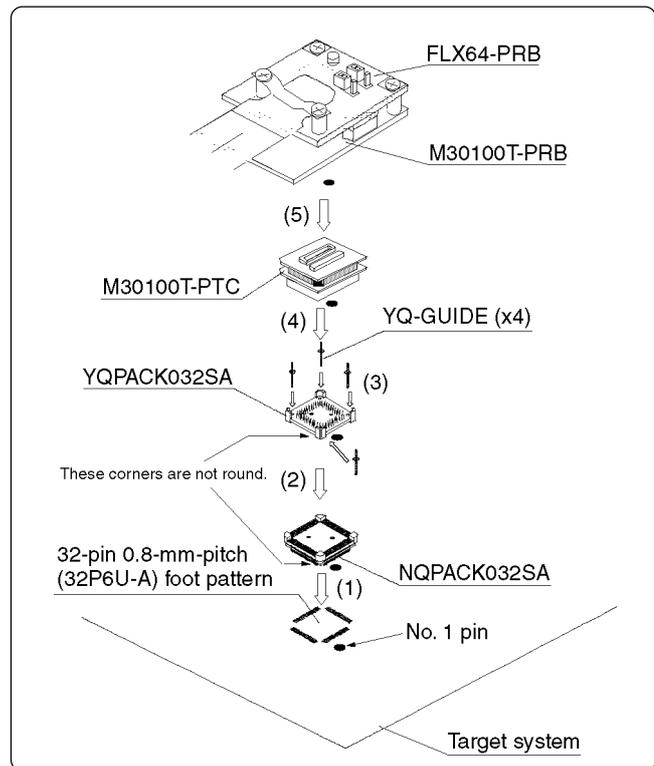

Figure 3 Connection procedure of the M30100T-PTC
5. Connection Procedure (see Figure 3)